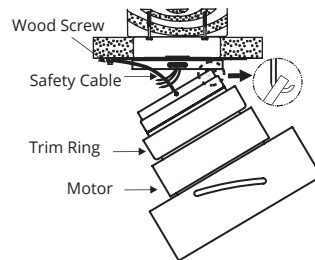

FIGURE 9
Receiver to house supply wires electrical connections: (Fig. 9 &10)
1. Lift motor assembly and hang it on the hook of mounting bracket using one of the screw holes. (Fig. 9)
2. Secure the safety cable to the building structure using a wood screw (not included). (Fig. 9)